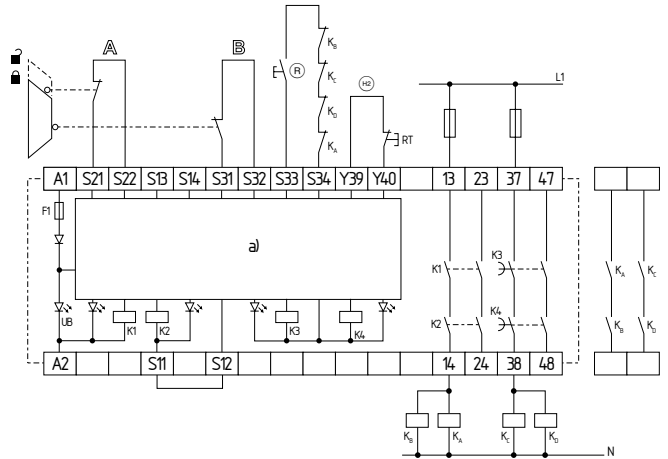

Fig. 7
Dual-channel control, shown for a guard door monitor; with two contacts A and B, where at least one is a positive break contact; with external reset button (R) (see Fig. 7)